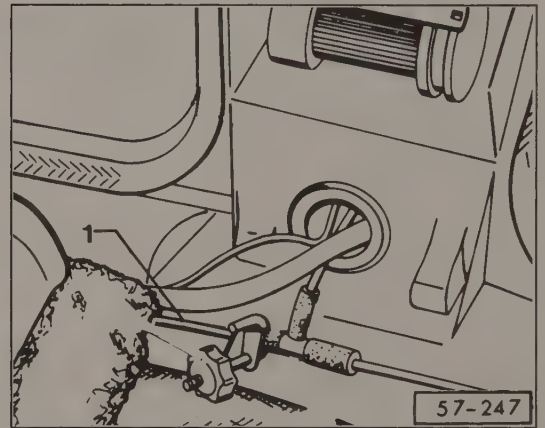

Fig. 5-11. Hose being clamped (1) near lower part of B-pillar to block air flow to right front door.
5. To determine which right door activator is faulty, remove the right carpet trim strip and unscrew the lower B-pillar trim. Clamp the hose shown in Fig. 5-11. If the pump runs longer than 5 seconds when activated, the rear door activator or its hose is faulty. If the pump turns off within 5 seconds, the front door activator or its hose is faulty. Remove the clamp.